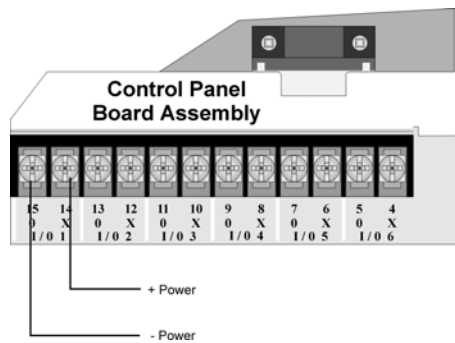

Figure 5 Flexput Auxiliary Power Output
1. Connect the auxiliary power wires to the Flexput terminals using “X” terminals as positive, and “O” terminals as negative power. See Figure 5.